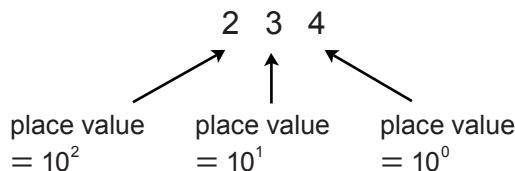

Figure 10.14 Place values of a decimal number
The position of a digit in a decimal number determines its **place value**, which is represented by 10^N . The place value starts from 10^0 for the rightmost digit with the power (N) increasing by 1 for each subsequent digit on the left, as shown in Figure 10.14.
In Figure 10.14, since the digit 2 has the highest place value, it is referred to as the most significant digit. Similarly, the digit 4 has the lowest place value and is referred to as the least significant digit.